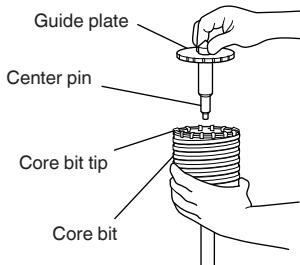

Fig. 21
(3) Insert the center pin into the guide plate until it stops.
(4) Engage the guide plate with the core bit, and turn the guide plate to the left or the right so that it does not fall even if it faces downward (Fig. 21).